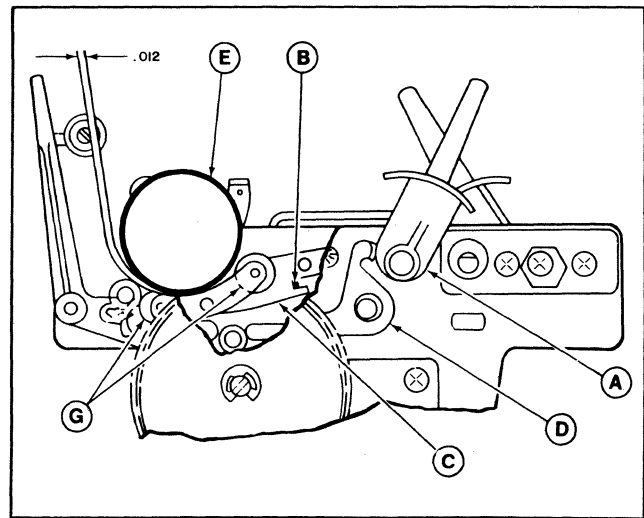

Figure 3-8. Paper Feed Adjustments
3.4.1.2.2 Paper Feed Rollers. Refer to Figure 3-8. With the paper release lever (A) fully forward, the paper feed rollers (G) must clear the platen (E) by a minimum gap of .080 in. (2 mm). To achieve this, and other goals, adjust the paper feed system as follows: